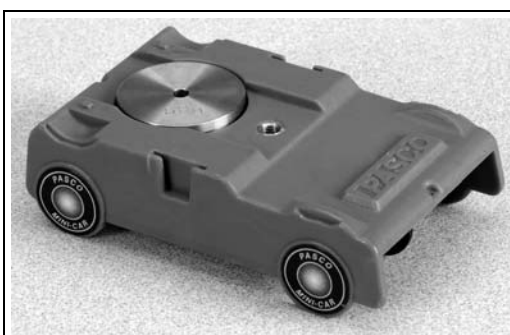

Figure 6: Car with Mass
- c) Take measurements with different masses in the car (Figure 6).